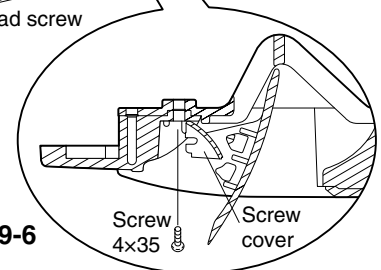

Fig. 9-6
- (7) Fit the supplied screws into the holes at the panel center (2 locations, front and rear), and tighten them. As shown in the Fig. 9-6, open the screw cover at the center of the discharge outlet, then insert and tighten the screw, and again close the cover.
- (8) Verify that the panel is tightly attached to the ceiling.